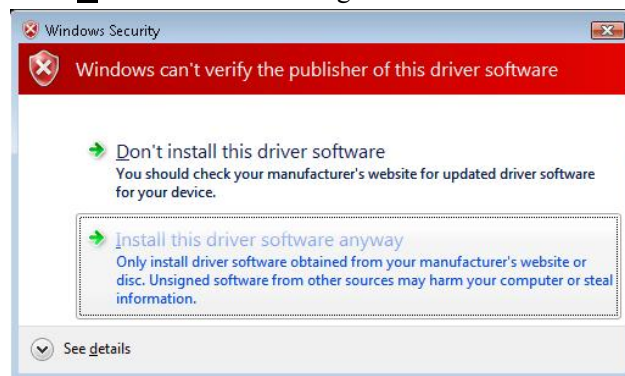

Figure 5.16
4. Choose **I**nstall this driver software anyway in Figure 5.16 and then the below screen appears.